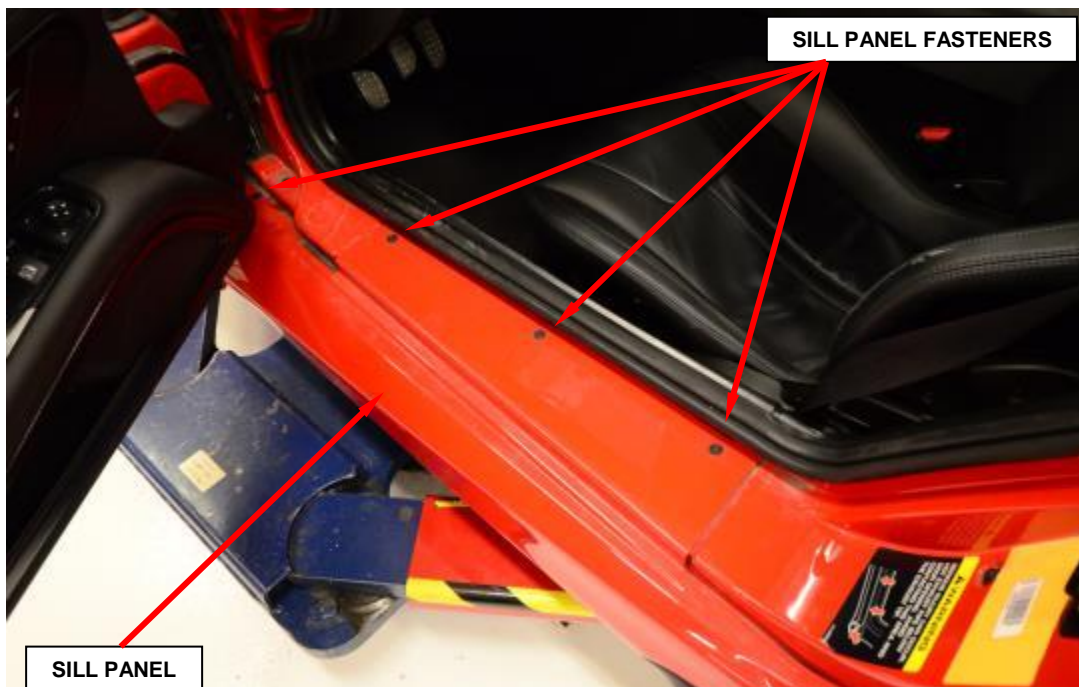

Figure 33 - Sill Panel Fasteners
- a. Open the door and remove the four fasteners from the sill trim panel (Figure 33).